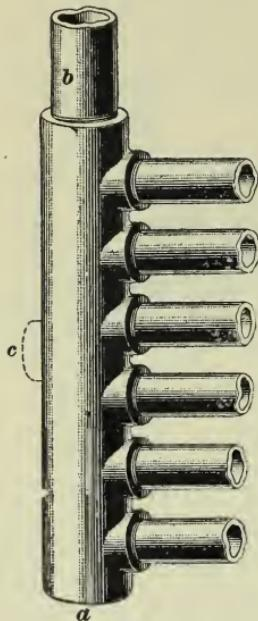

FIG. 46
**62. Manifold tees**, or **headers**, are used for making flat coils, where the pipes run in the same direction and are parallel. They are made with outlets on the end for connections to the supply pipes. A common manifold, sometimes called a **branch tee**, is shown in Fig. 46. The end *a* is tapped and closed by a plug, and is said to be **blanked**. A supply pipe *b* connects to the other end.